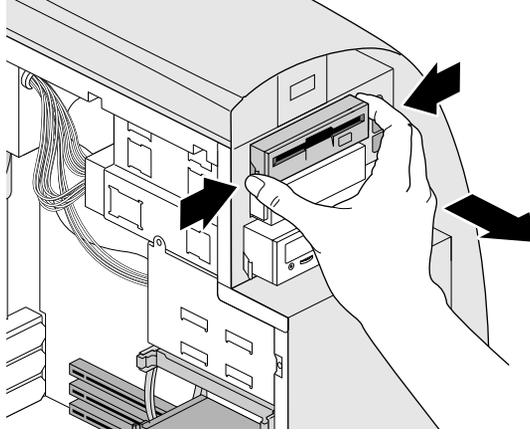

Figure 4-8 Removing a Removable Media Drive
5. From the front, pinch the drive sled tabs on the sides of the drive and pull the drive out, as shown in Figure 4-8.